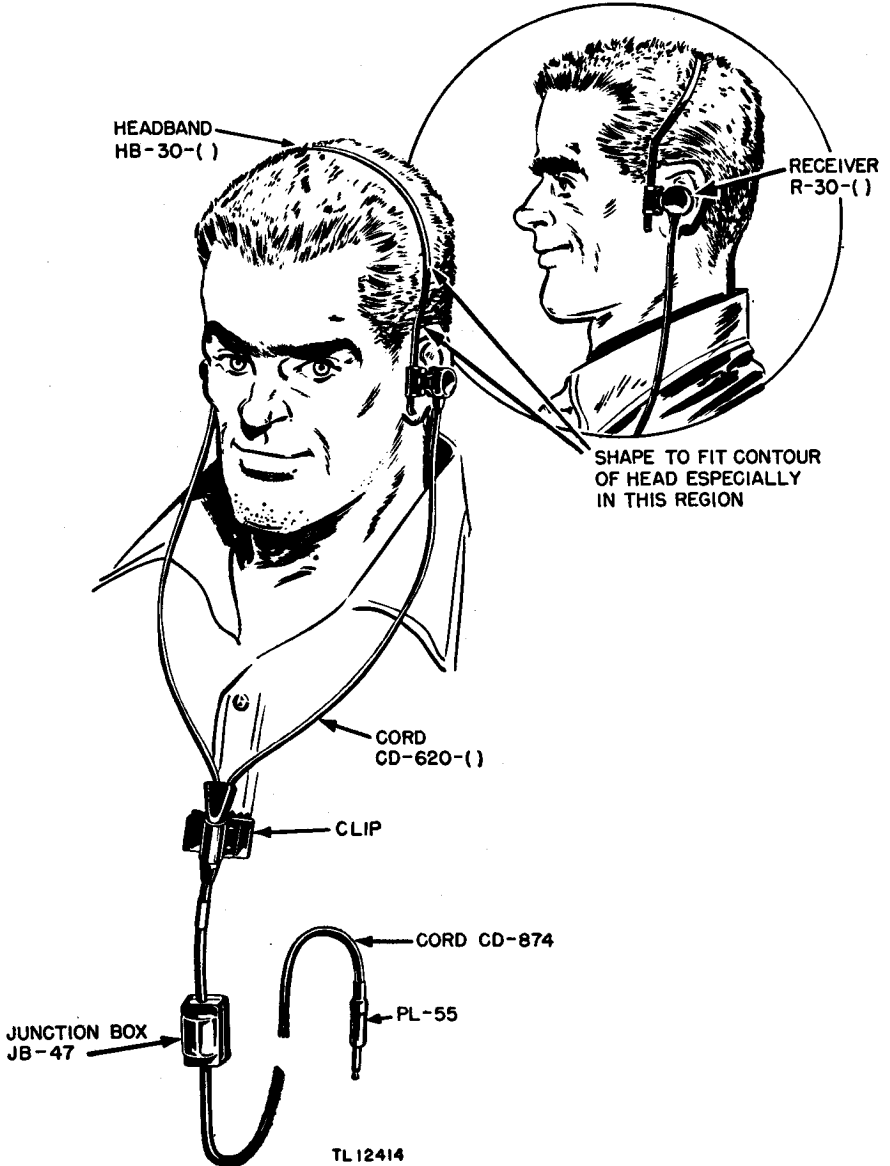

Figure 20. Headset HS-30-( ), in use.
a. **HEADSET HS-30-( ).** Headset HS-30-( ) is a lightweight, close-fitting headset. Special soft rubber earpieces, fitted to the receivers of the headset, are designed to fit snugly into the ear cavities and exclude outside noises. The headband is a thin steel band that is adjustable to the contours of the operator's head. The clip on the headset cord should be attached to the operator's clothing to relieve the pull of the cord. (See fig. 20.)
Headset HS-30-( ) is used to monitor reception and transmission. It is usually worn by the man who carries the set when two men are using it for portable operation. Wear Headset HS-30-( ) as shown in figure 20. Adjust the position of the phone units and the headband so that the earpieces fit comfortably into the ear cavities. Fasten the clip provided on the cord to the clothing to relieve the pull of the cord.